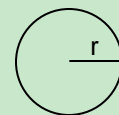

**Figure 22.** Calculate the area of the irregular shape by totaling the area of individual geometric shapes.
To apply the correct amount of pesticide, you need an accurate measure of the area to be treated. One method for calculating the size of an irregular area is to subdivide it into the closest approximation to geometric shapes, as shown in Figure 22. The area of each shape is calculated separately using the formulas in the box below. For example, the area of Figure 22 can be subdivided into a circle (A), a rectangle (B), a triangle (C), and a trapezoid (D). The total area of Figure 22 is then the sum of the individual areas of A + B + C + D.